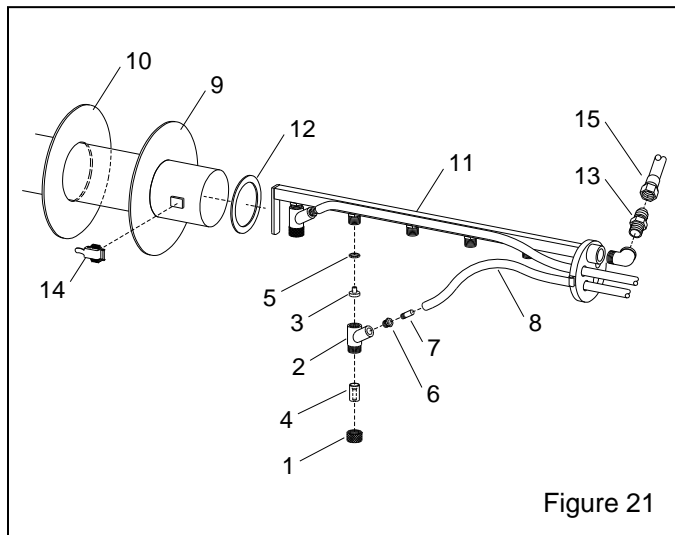

Figure 21
9.4 Gun and Rack Assembly, Figure 21